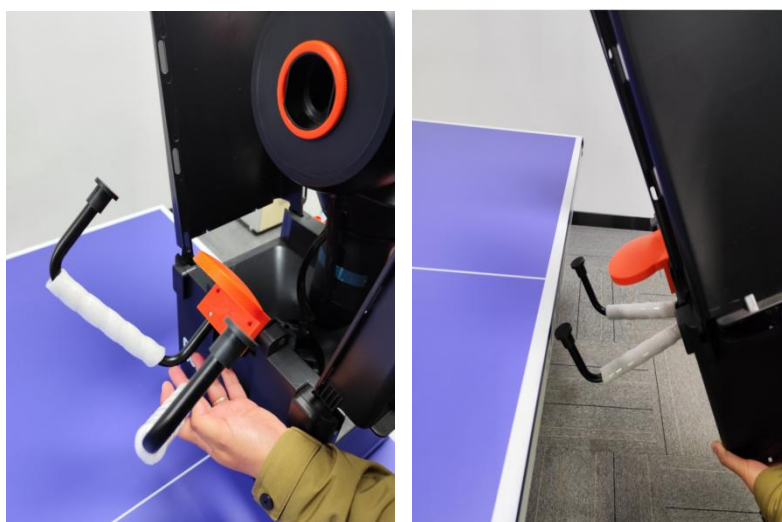

Figure 2-1
2.1.2 Flip the robot clamping assembly outward, adjust the left and right support pipes to the maximum angle. Grasp the robot's net support pipe with your right hand, and support the bottom ball frame with your left hand, tilting the robot forward by 45°. Gently clamp it at the central position at the bottom end of the table. Adjust the robot's position so that the rubber pad of the ball frame is in close contact with the table. (Figure 2-1)